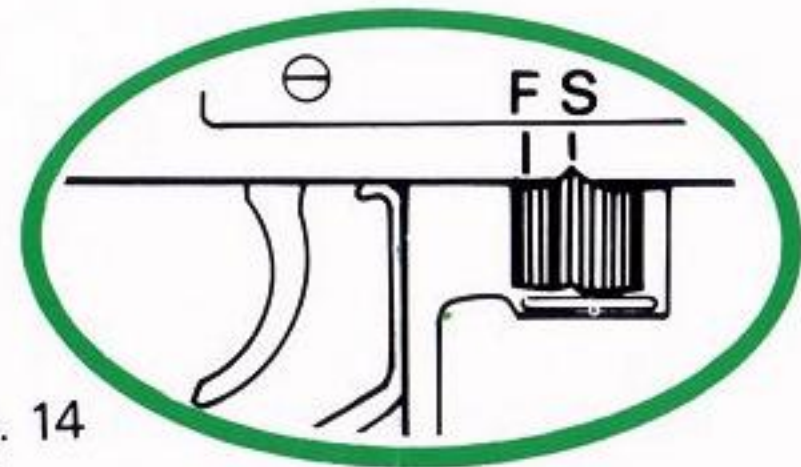

fig. 14
6. Move the fire selector to "S" (Safe) (fig. 14).
1. Place fire selector on "S" (Safe). (fig. 14).